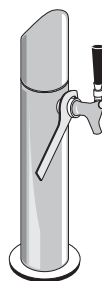

fig. 1
1. Disconnect tap from barrel. Remove beer faucet with spanner wrench unscrew handle and remove valve assembly (fig. 1).